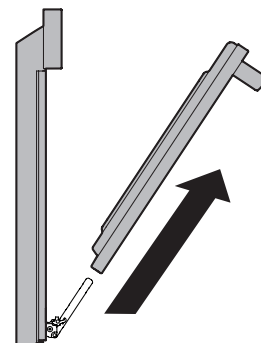

Figure 29: Remove Door
4. Pull the bottom of the door toward you while rotating the top of the door toward the appliance to completely disengage the hinge levers (Figure 29).
1. Firmly grasp both sides of oven door along the door sides. Do not use the oven door handle (Figure 29).